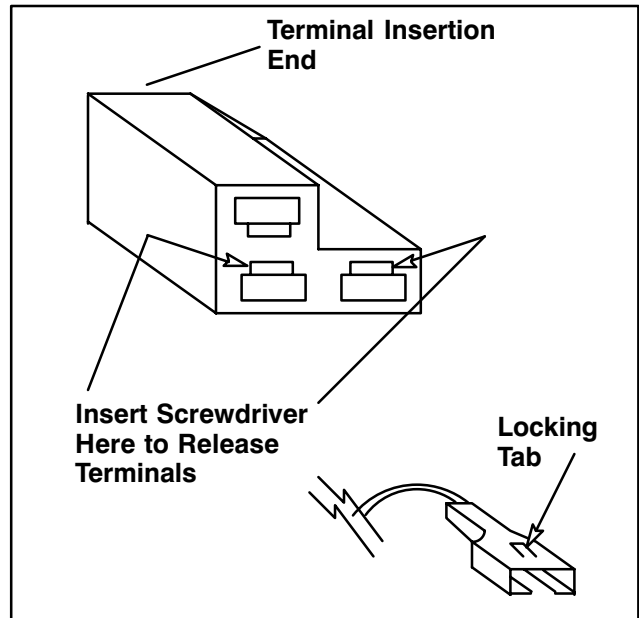

Figure 2. Removing Terminals
6. Remove leads P and 70 from connector using removal tool or miniature screwdriver. Electrical terminals are locked in connector by a small tab on top of terminal. Insert screwdriver into connector on end opposite of leads and *carefully* pry locking tab down. Remove leads from old connector. See Figure 2.